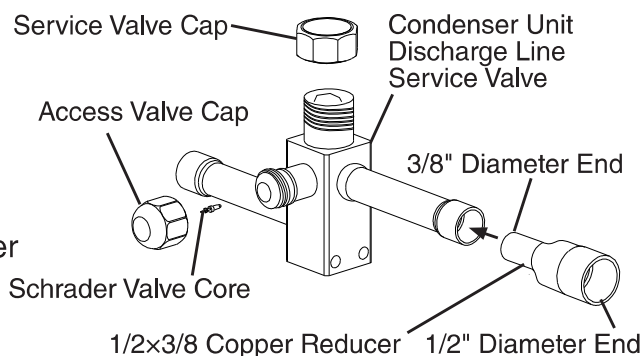

Fig. 14
- b) Place the line set discharge line copper tube (1/2") into the copper tube slip reducer 1/2" end. See Fig. 14.